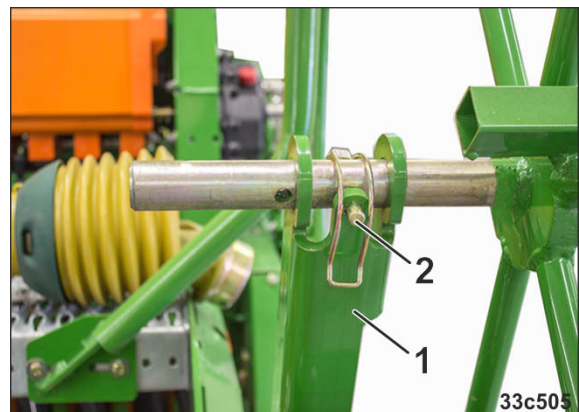

Fig. 149
- 3.2 Insert the star wheel in the transport bracket (Fig. 149/1) and secure it with the linch pin (Fig. 149/2).